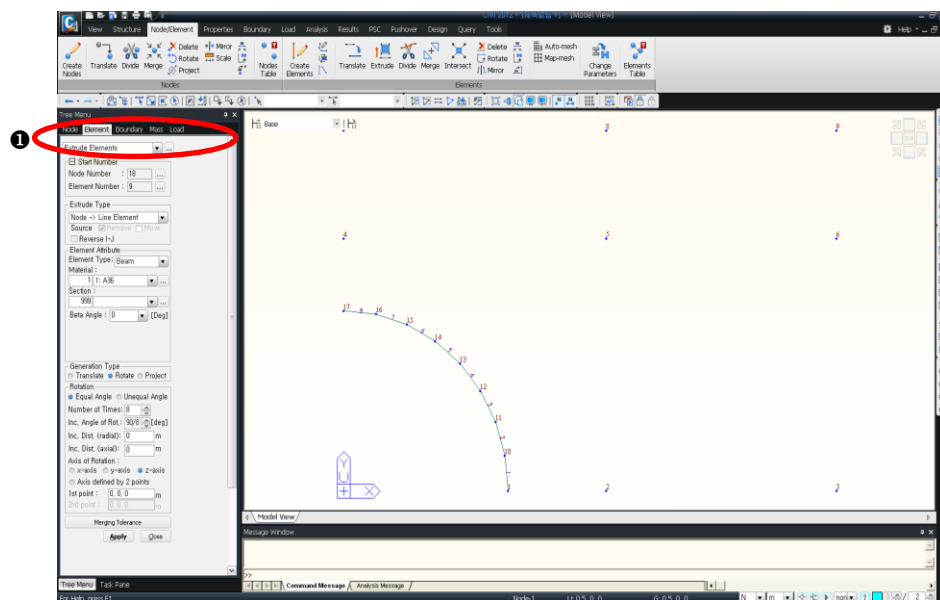

Figure 3.3 Generation of Temporary Beam Elements around the Opening Circumference
1. Select **Element** tab in the Tree Menu or (Node/Element > Elements > Extrude from the Main Menu) (Fig.3.3–①).